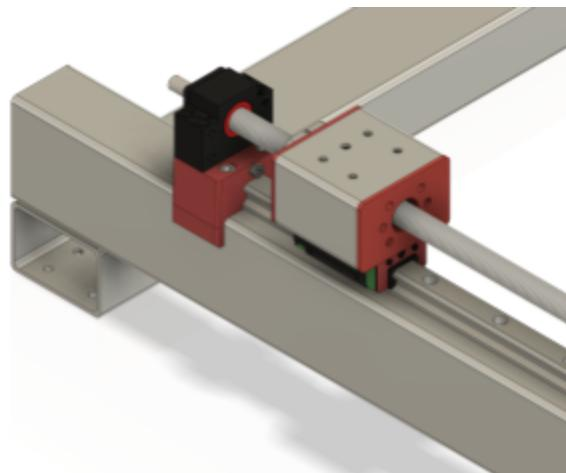

Figure 8.13
10. Pass the inset face of the Ball Screw Face Plate Rear over the unused side of the ball screw and slide it all the way up the screw. Insert the inset side of the printed part into the Y-Axis roller beam as shown in Figure 8.13.